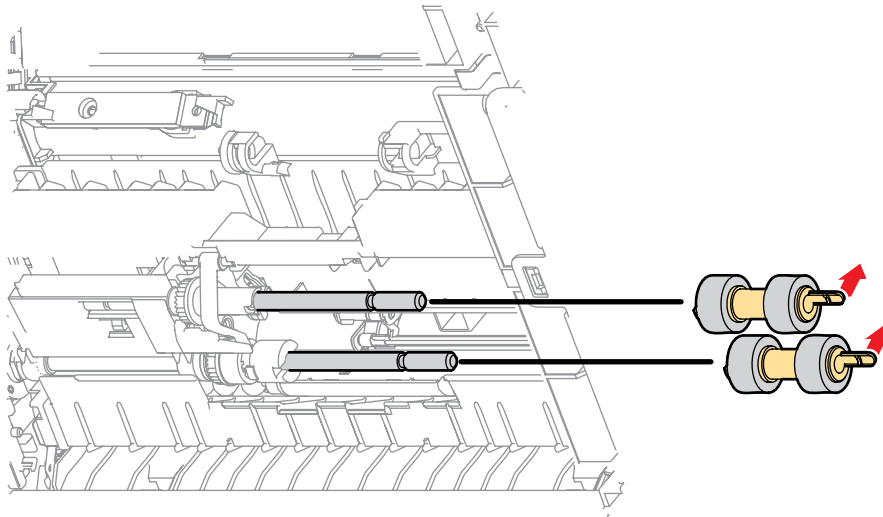

Figure 1
2. Remove the Feed and Nudger Rollers. (Figure 1)